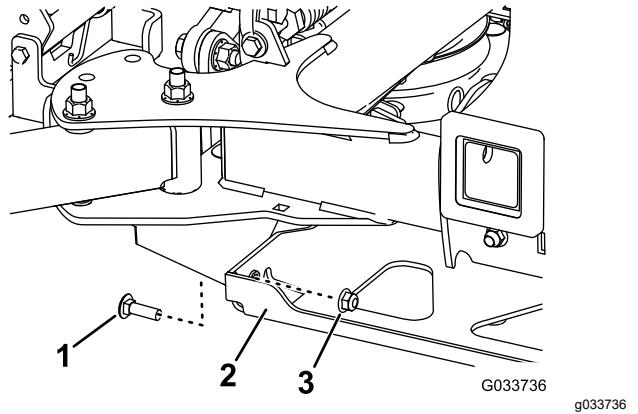

Figure 86
4. Remove the 2 bolts and 2 nuts connecting the strut bracket to the frame (Figure 86).
4. Install the 2 bolts that you retained to connect the strut bracket to the frame (Figure 86).